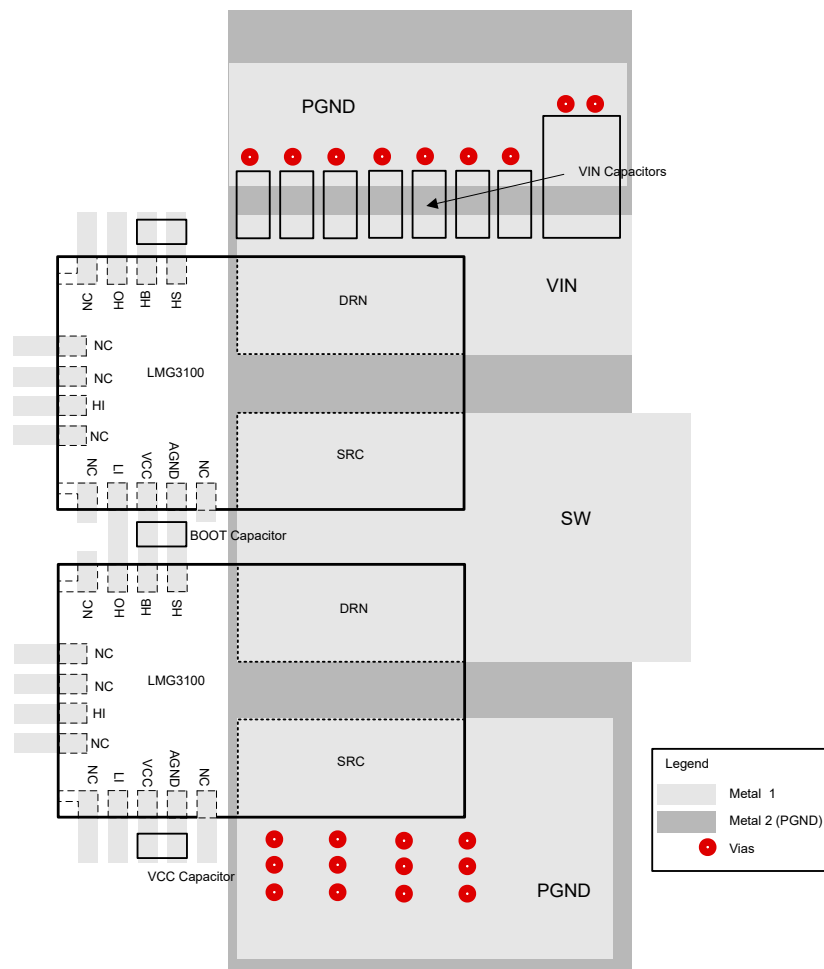
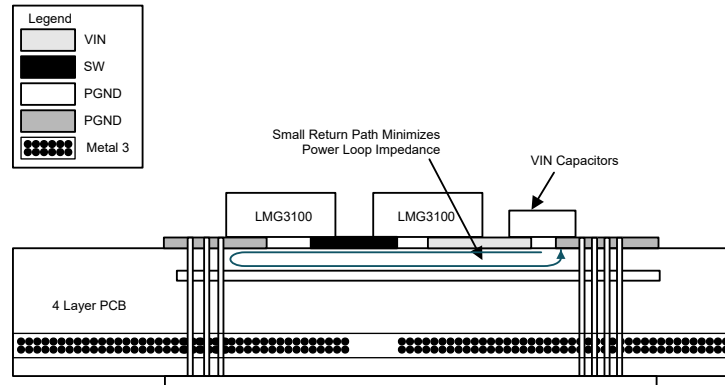

Figure 8-6. External Component Placement (Multi Layer Board)
Figure 8-7. Four-Layer Board Cross Section With Return Path Directly Underneath for Power Loop
To maximize the efficiency benefits of fast switching, it is extremely important to optimize the board layout such that the power loop impedance is minimal. When using a multilayer board (more than 2 layers), power loop parasitic impedance is minimized by having the return path to the input capacitor (between VIN and PGND), small and directly underneath the first layer as shown in Figure 8-6 and Figure 8-7. Loop inductance is reduced due to flux cancellation as the return current is directly underneath and flowing in the opposite direction.
Placements shown in Figure 8-6 and in the cross section of Figure 8-7 show the suggested placement of the device with respect to sensitive passive components, such as VIN, bootstrap capacitors (HS and HB) and VCC capacitors. Use appropriate spacing in the layout to reduce creepage and maintain clearance requirements in accordance with the application pollution level. Inner layers if present can be more closely spaced due to negligible pollution.
- Changed part number typographical error in Figure 8-6 22